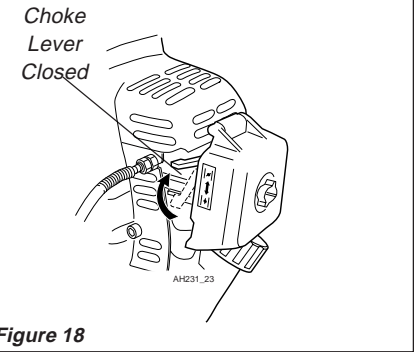

Figure 18
3. Choke the engine by moving the choke lever up to the "closed" position. See Figure 18.